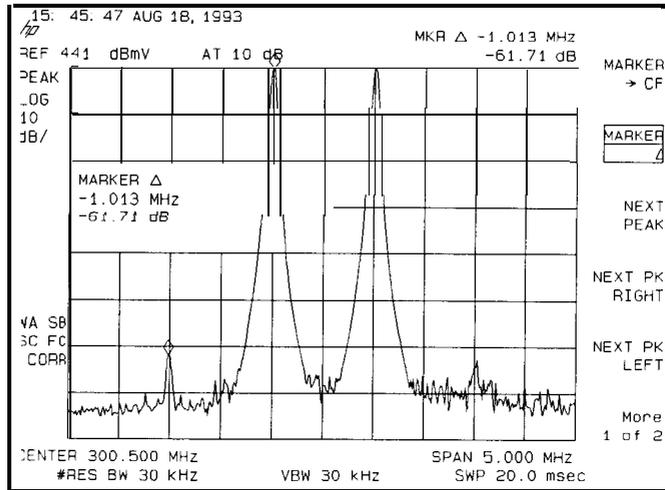

Figure 4-24. Measuring the Distortion Product
**NEXT PEAK** This places a marker on the next highest peak, which, in this case, is the other source signal. To measure the difference between this test tone and the second distortion product, press **MARKER A** and use the knob to adjust the second marker to the peak of the second distortion product. (See Figure 4-24.)